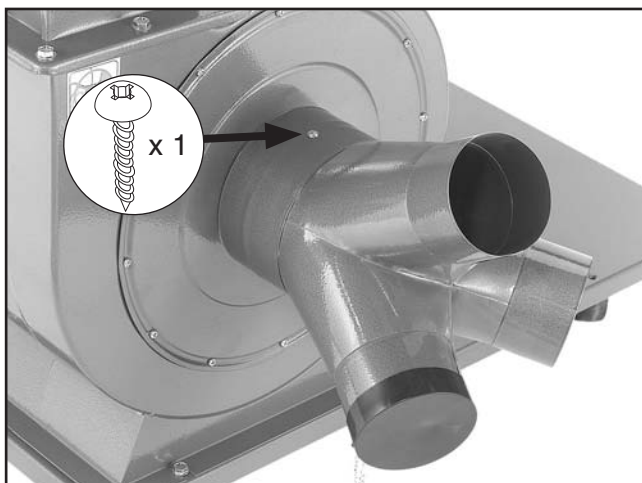

Figure 22. Inlet connector installed.
- Insert the inlet connector over the impeller intake hole, then secure it in place with the #10 x 3/8" tap screw, as shown in **Figure 22**.